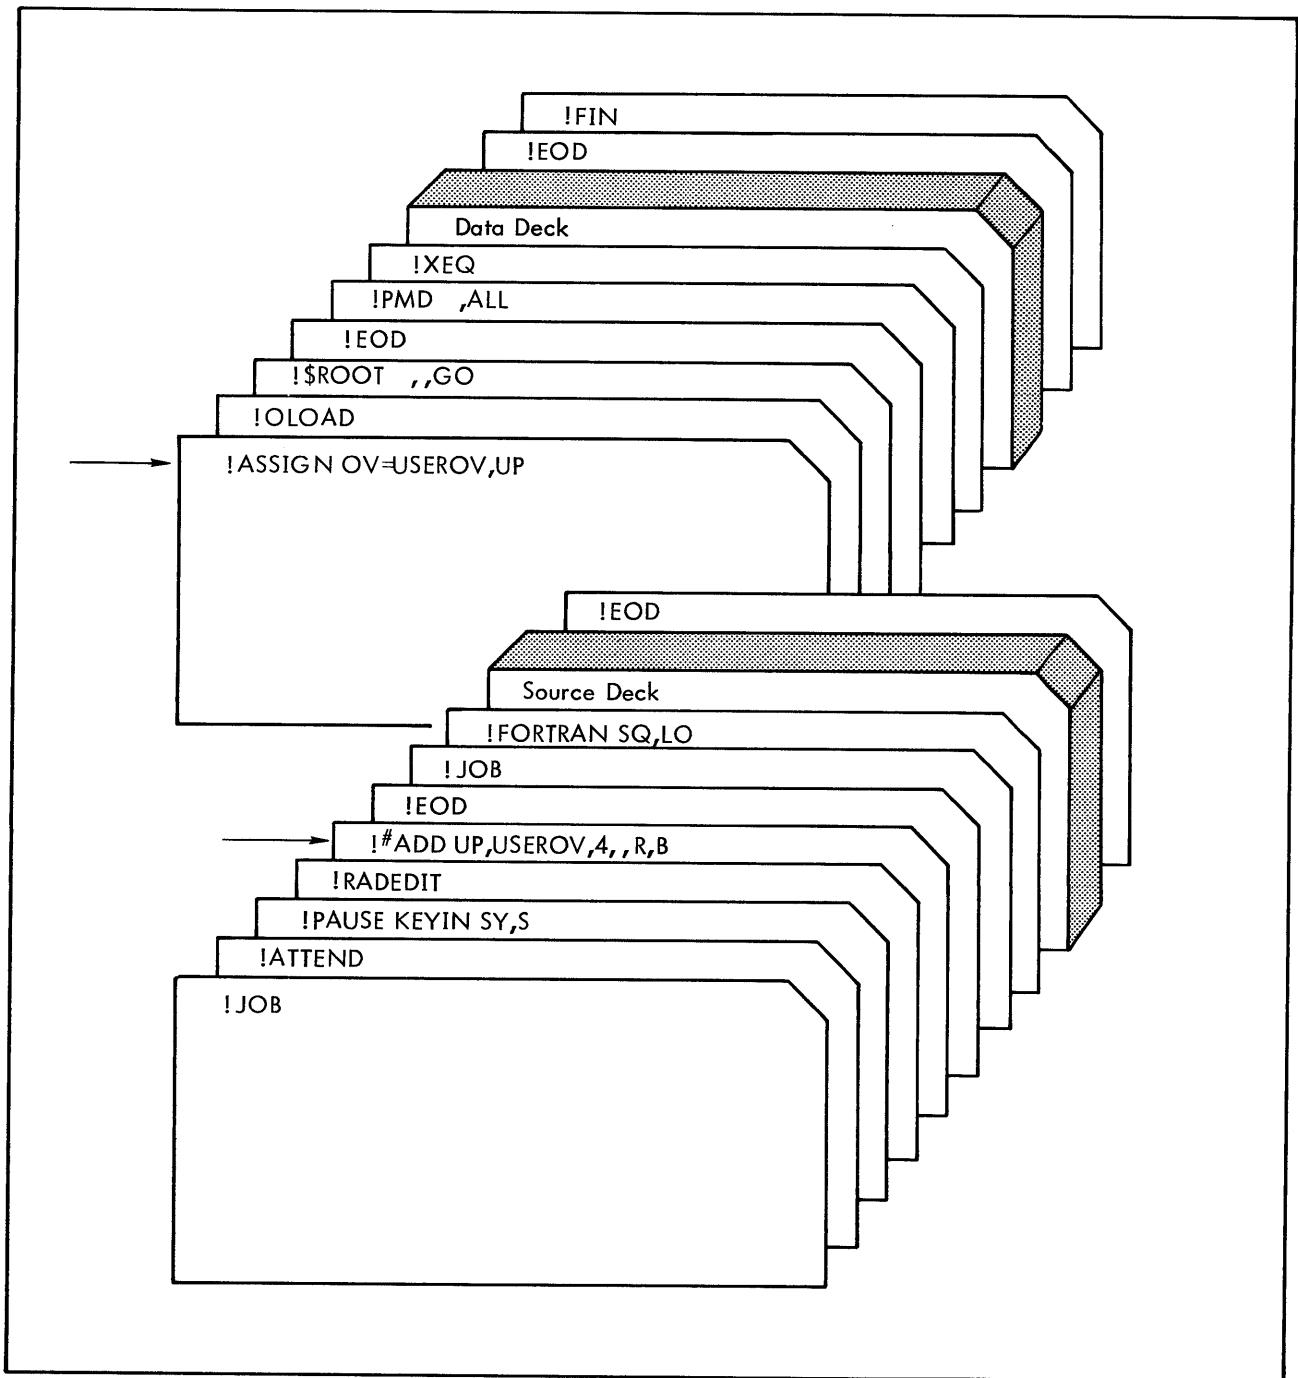

Figure 7. Compile, Load, and Go from Permanent OV File
In the example in Figure 7, the !RADEDIT card calls in the RAD Editor and the !#ADD card informs the Editor that a new entry is to be added to UP area. The name of the file is to be USEROV and there are four records within the file (filesize). The double comma specifies that the default record size is to be used and the format is to be random access (R). The file has write protection from everything except background programs (B).